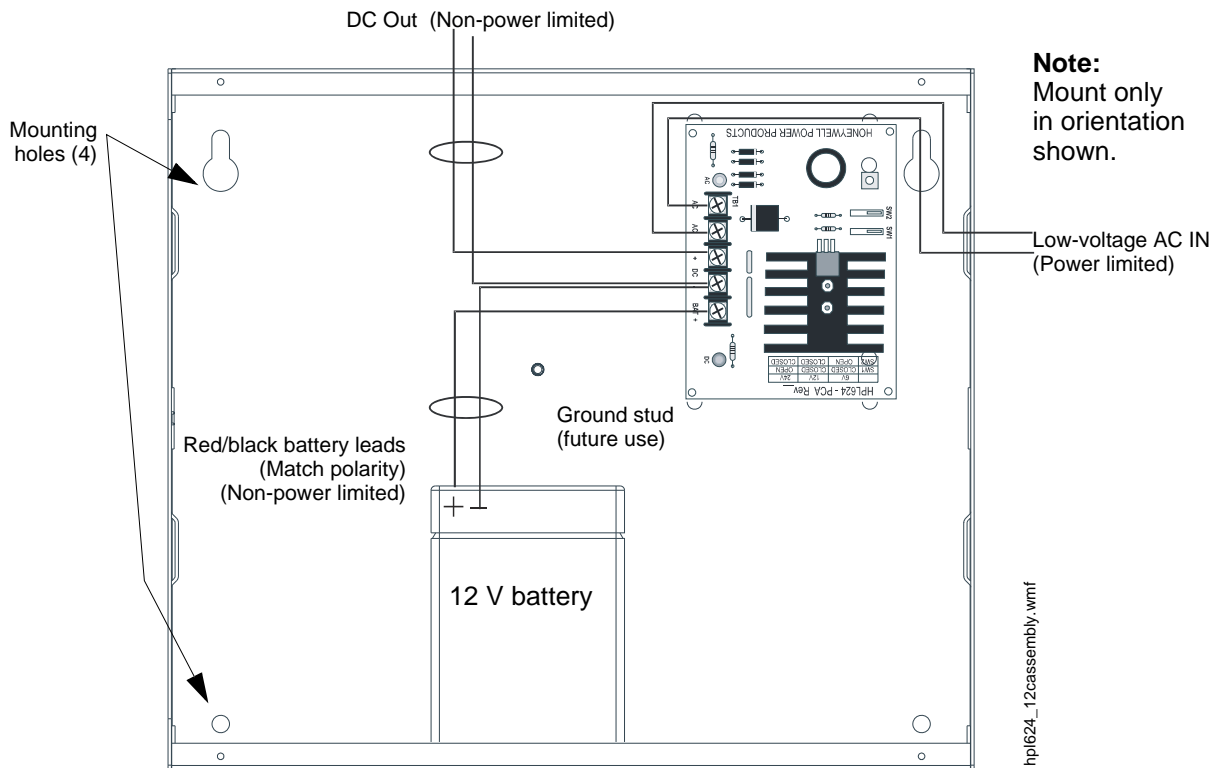

Figure 1 Typical Assembled Kit and Wiring Diagram
5. Mount power supply inside enclosure, as shown in Figure 1, with snap-in stand-offs supplied.